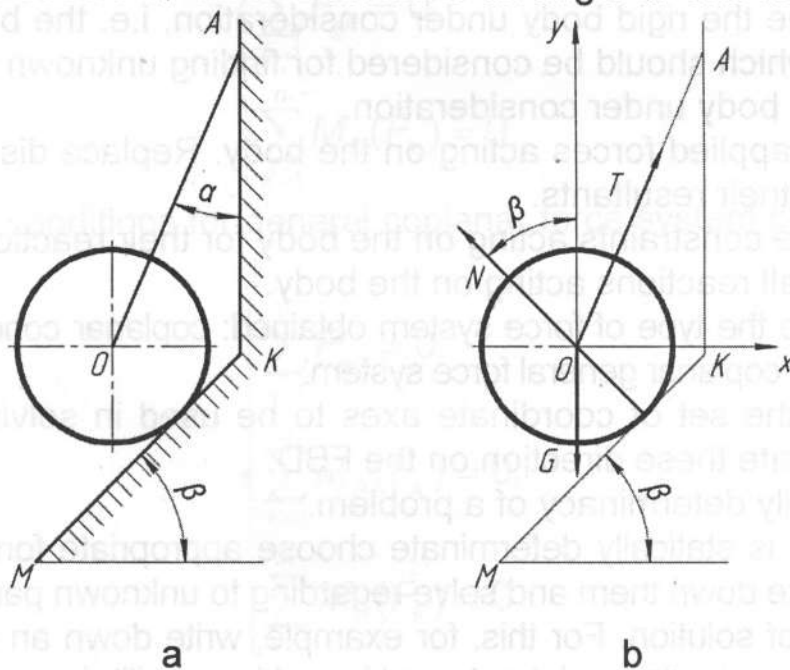

Fig. 2.1
The cylinder with weight  $G=200\text{ N}$  (Fig. 2.1, a) is held by a rope  $OA$  on ideal smooth inclined plane  $MK$  making with horizon an angle  $\beta = 45^\circ$  and exert on plane pressure  $Q=60\text{ N}$ . Determine an angle  $\alpha$  and rope tension  $T$ .
1. Construct a Free body Diagram (FBD) (see Fig. 2.1, b).